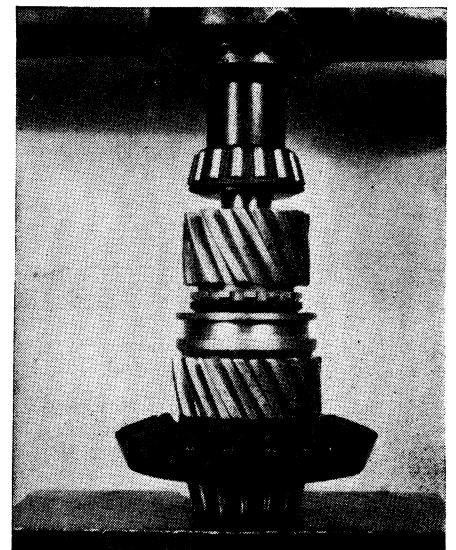

Fig. 25 Pressing bearing on cross shaft
10. Press cross shaft bearing squarely and firmly against the cross shaft shoulder, using suitable sleeve, Fig. 25.